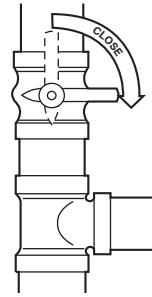

Fig. 5 - Close Valve
3. Turn off electrical supply to the furnace. (See Fig. 5.)